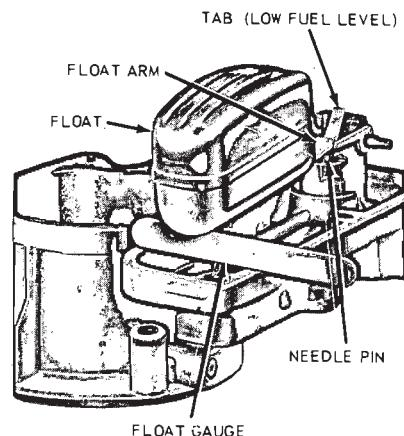

FIG. 6—Fuel Level Float Adjustment
2. Fabricate a float level gauge (Fig. 6) to the specified float level dimension.
3. Invert the air horn assembly, and check the clearance from the top of the float to the bottom of the air horn with the float level gauge (Fig. 6). Hold the air horn at eye level when gauging the float level. The float arm (lever) should be resting on the needle pin. Bend the float arm as necessary to adjust the float level (clearance). Do not bend the tab at the end of the float arm; it prevents the float from striking the bottom of the fuel bowl when empty.